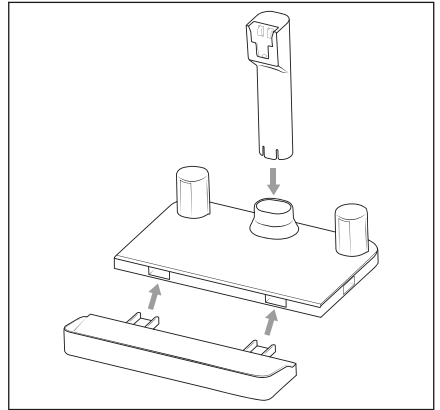

Fig. 4
- 1) Assemble the charging station 15 and fasten the appliance cradle 17 to the charging station 15 (see Fig. 4).